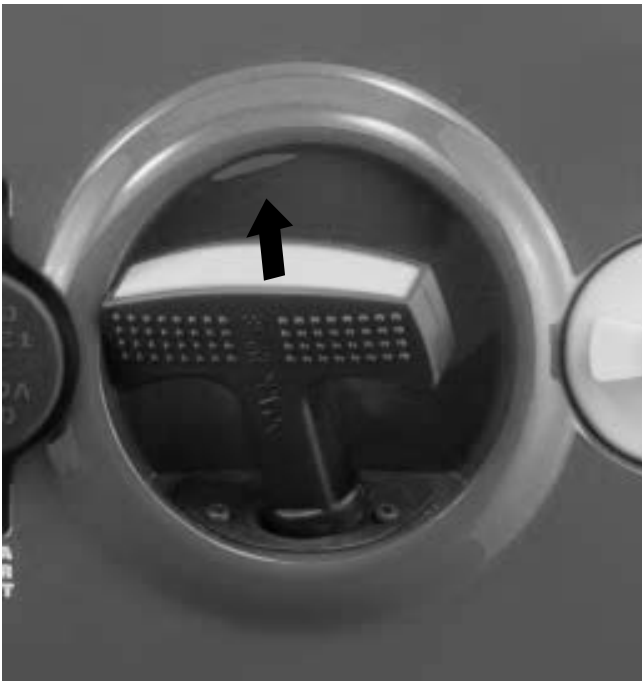

Figure 30 – Recoil Handle
4. Firmly grasp and pull the recoil handle slowly until you feel increased resistance. At this point, apply a rapid pull while pulling out from the inverter (see Figure 30).